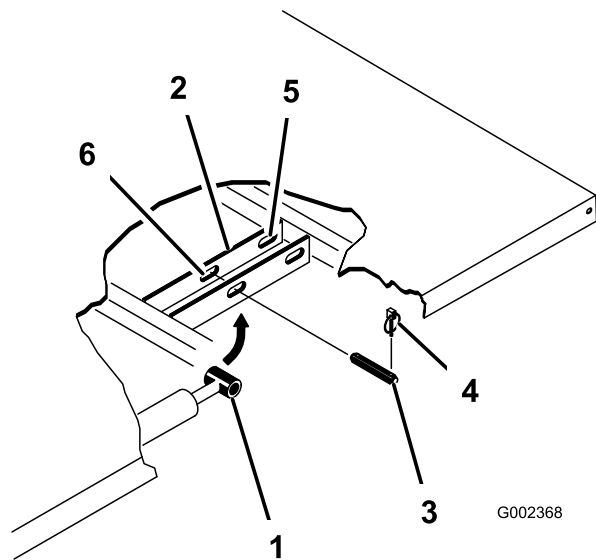

Figure 22
3. Remove the lynch pins from the outer ends of the cylinder rod clevis pins (Figure 22).
4. Remove the clevis pins securing the cylinder rod ends to the bed-mounting plates by pushing the pins toward the inside (Figure 22).
5. Remove the lynch pins and clevis pins securing the pivot brackets to the frame channels (Figure 22).